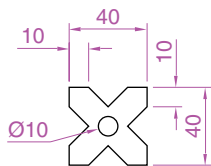

Fig. 5.15 First example – **Array** – drawing to be arrayed
1. Construct the drawing in Fig. 5.15.